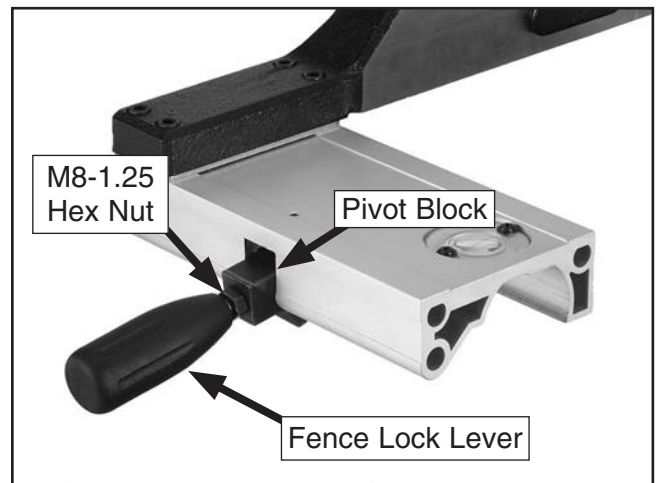

Figure 12. Handle installed on fence assembly.
15. Install an M8-1.25 hex nut on the fence lock lever, then thread the handle into the fence assembly (**Figure 12**). Tighten the hex nut against the fence pivot block to secure the handle.